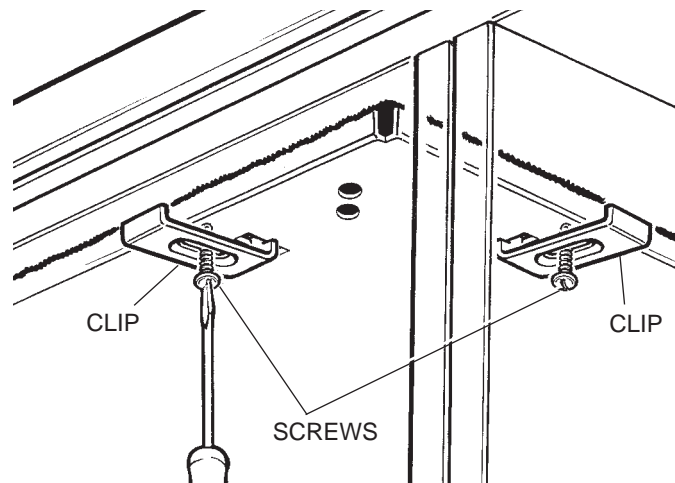

Figure 8
7. Turn the clips, making sure that the clips grip the worktop, and then tighten the screws (Figure 8).